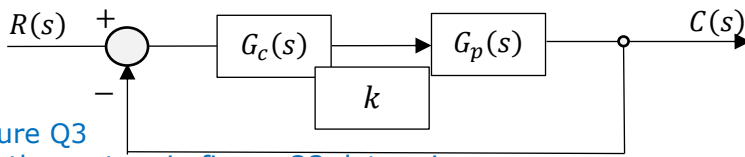

Figure Q3
Figure Q3 shows a system consisting of a controller with transfer function $G_c(s)$, plant with transfer function $G_p(s)$, and feedback loop with a constant proportional gain k .
For the system in figure Q3 determine:
The system in figure Q3 is subjected to a unit step input $R(s) = \frac{1}{s}$ at $t=0$. For:
- (a) Draw a fully annotated Free Body Diagram for each of the rotational elements in terms of their rotational displacements, θ_1 and θ_2 , for the positive directions of motion shown in Figure Q3. [6 points]